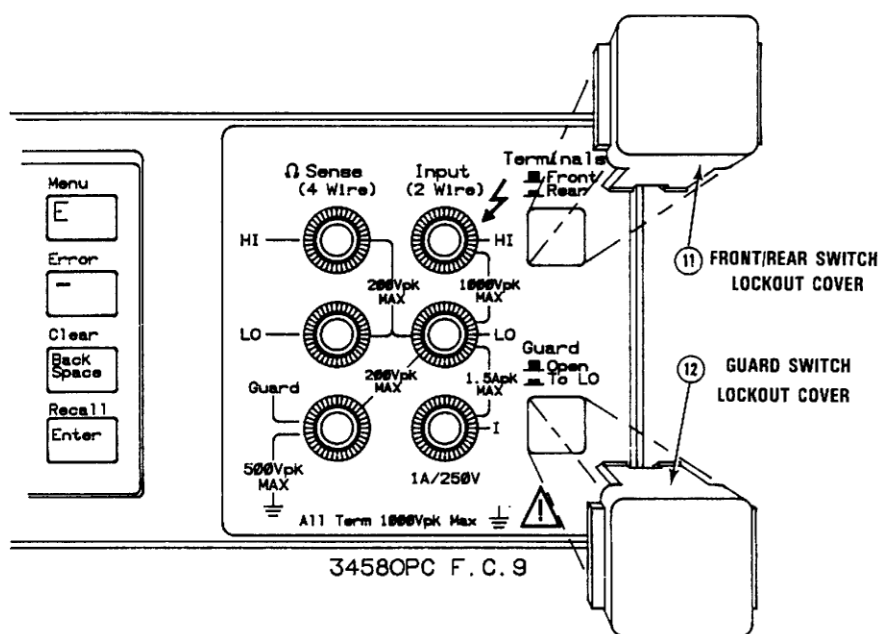

Figure 43. Switch covers installation
1. Refer to Figure 43. Turn the instrument so its front faces you.
3. Locate the little square covers that came in the switch lockout kit, as shown in Figure 43.